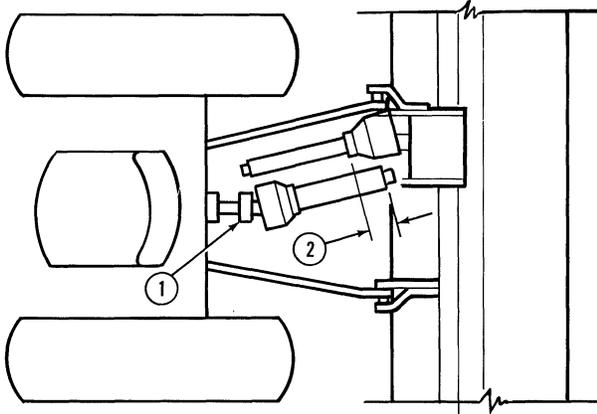

Figure 15
- Determine the excess driveshaft length by measuring from the rearmost edge of the front half shield to just behind the bell-shaped shield on the rear driveshaft half as shown at (2), Figure 15.